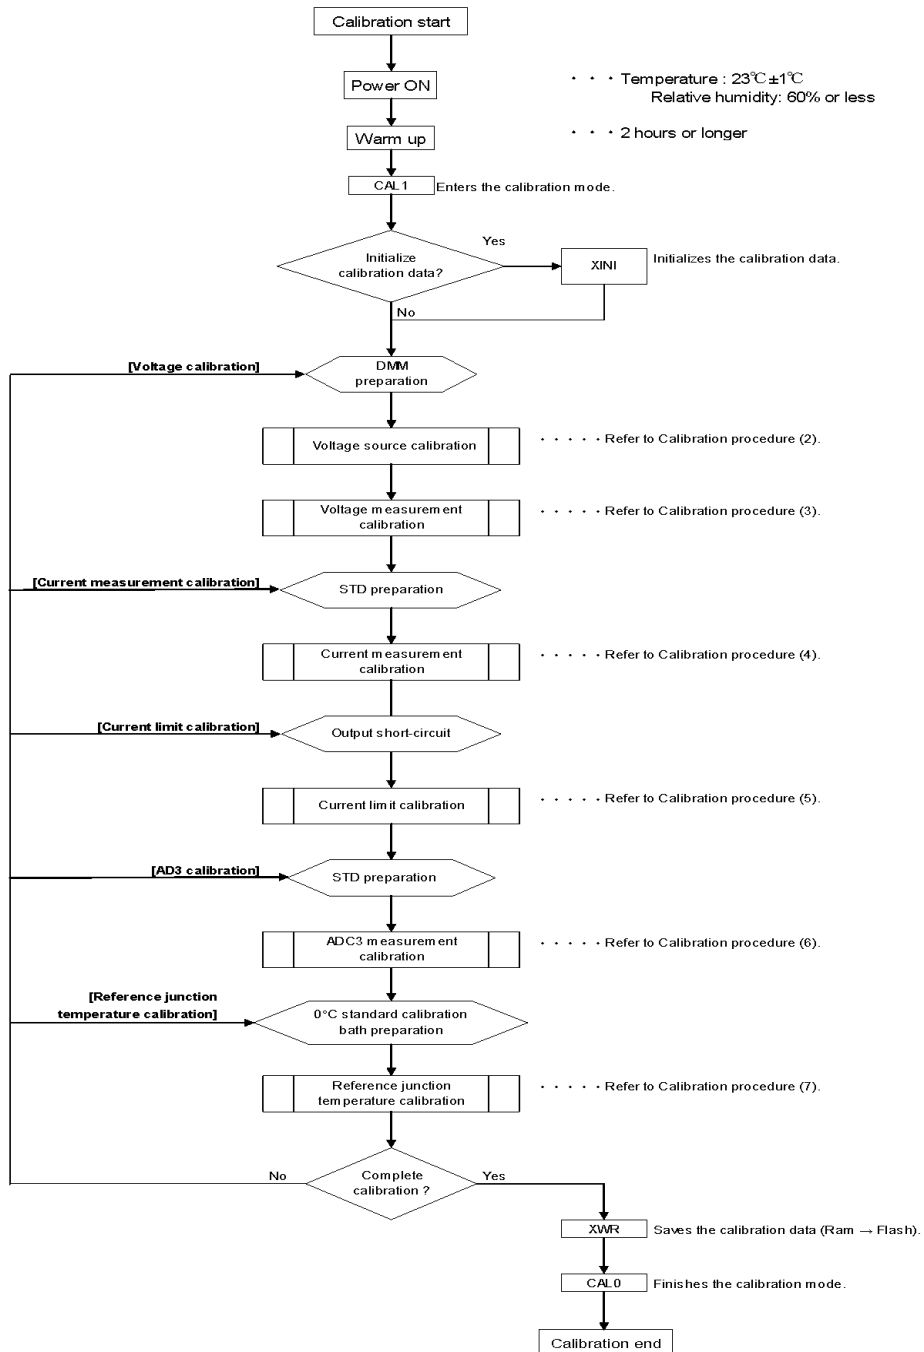
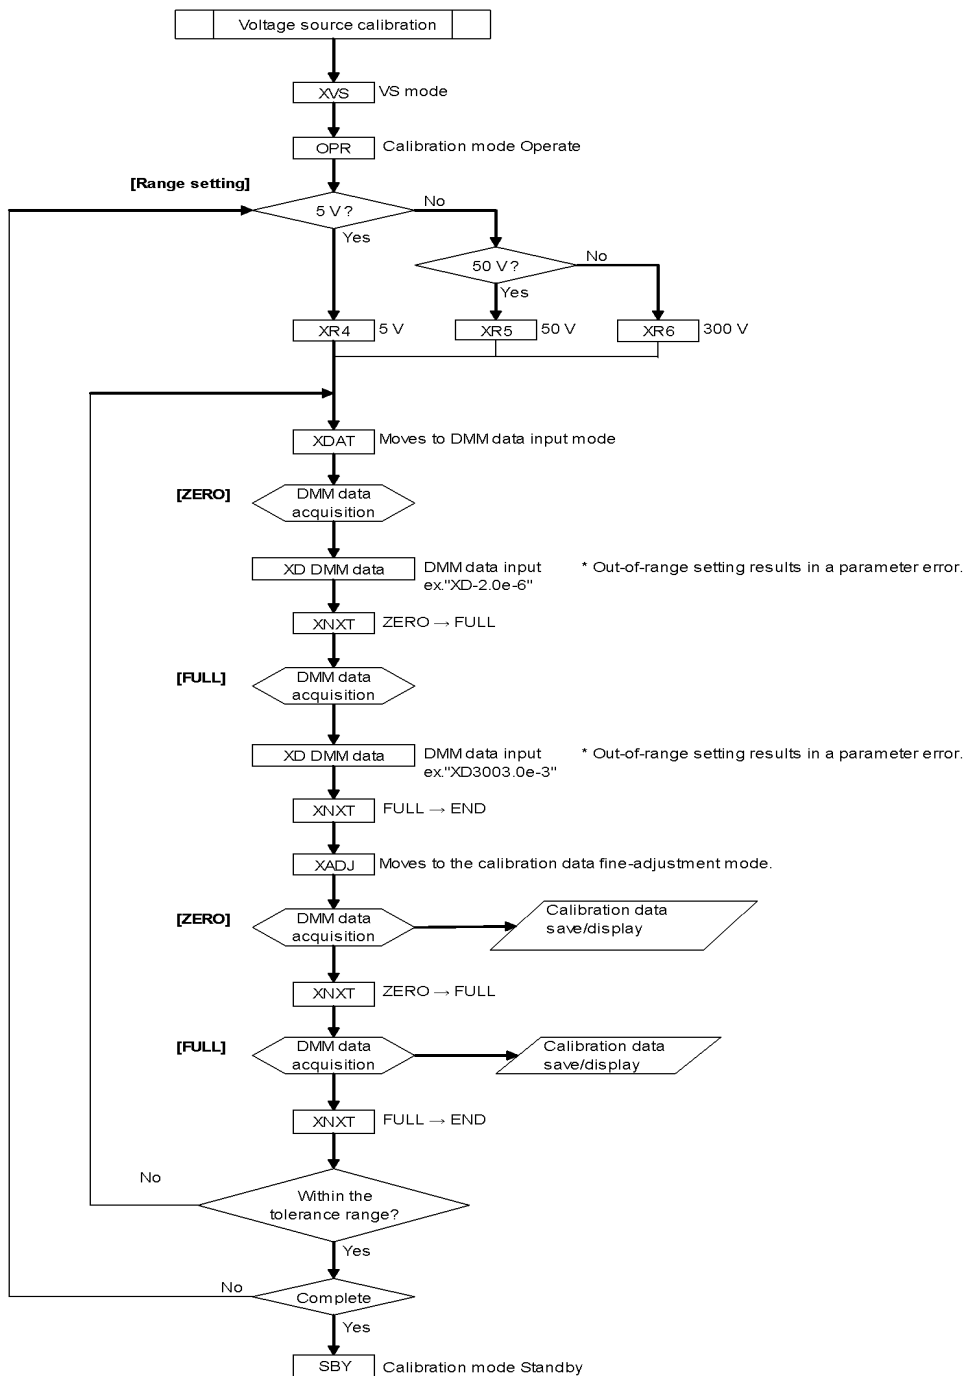
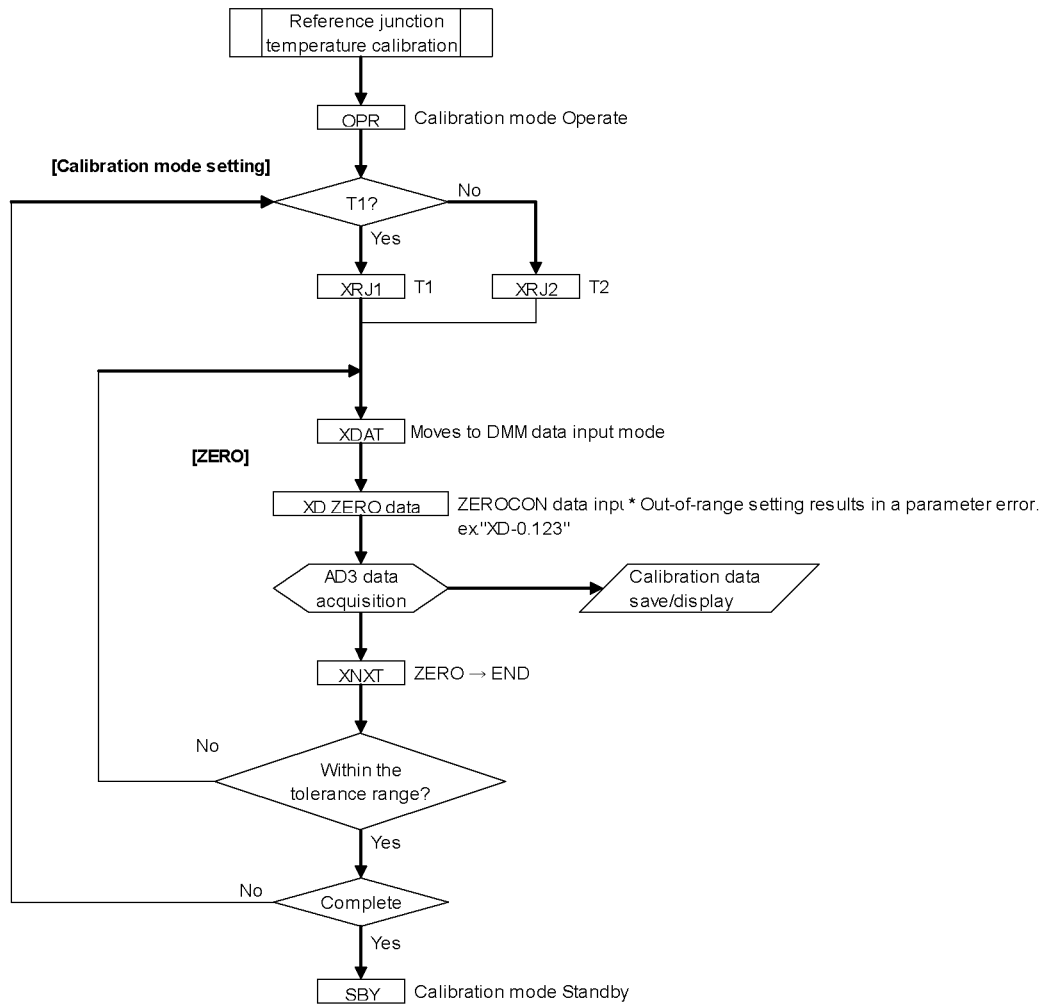

Figure 8-5 Calibration Procedure (1)
Figure 8-6 Calibration Procedure (2)
Figure 8-11 Calibration Procedure (7)
The 4601 is calibrated by using the remote commands through the GPIB or USB interface. Figure 8-5 to Figure 8-11 shows the flows of calibration processes.
The overall procedure of calibrations is described according to Figure 8-5 Calibration Procedure (1).
4. Execute the calibrations according to Figure 8-6 Calibration Procedure (2) to Figure 8-11 Calibration Procedure (7).
The procedure of voltage source calibration is described according to Figure 8-6 Calibration Procedure (2).